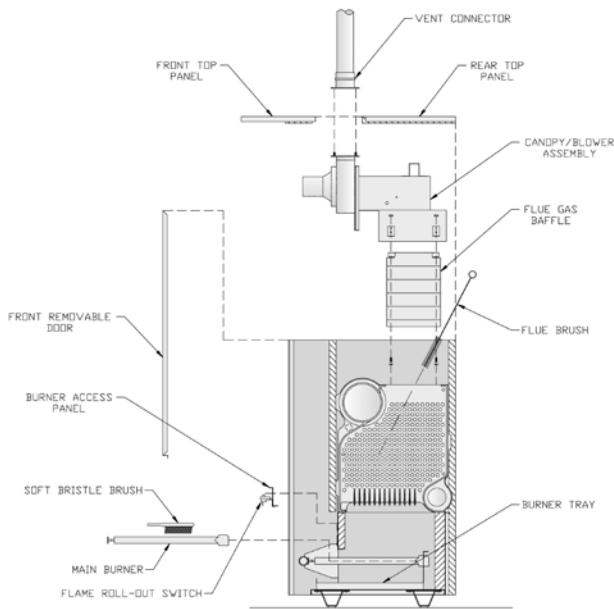

Figure 22: Cleaning Boiler Flue Passages
7. Loosen (4) carriage bolts. Remove Canopy/Blower Assembly.
9. Inspect flue passages. Clean with flue brush. See Figure 22.